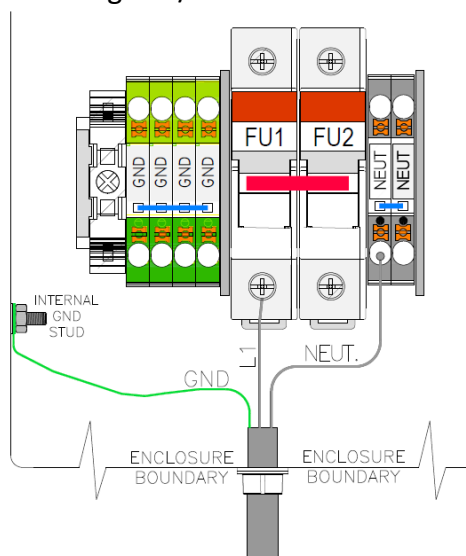
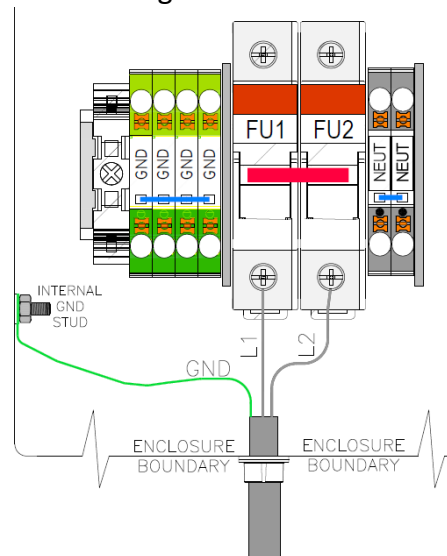

Figure B-1
Figure B-2
- Pull (3) conductors for single-phase supply 120V/220VAC-50/60Hz. Wire should be sized to supply a minimum of 500 VA. See MICP™ Fuse and Wiring Section **Table B-1**.
- A mains supply ground connection (PE) at the MICP™ internal ground stud is required.
- Refer to the wiring diagram **Figure B-1 & Figure B-2** for required power field connections.